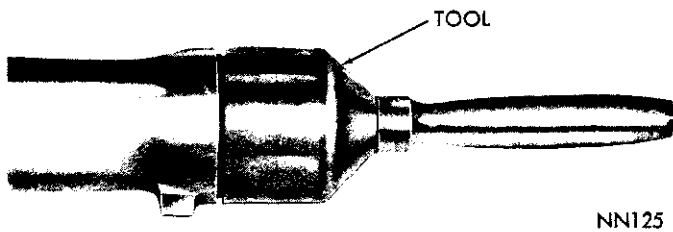

Fig. 14—Installing Extension Housing Yoke Seal
(4) To install a new seal, position seal in opening of extension housing and drive it into housing with Tool C-3972 (Fig. 14).
(5) Carefully guide front universal joint yoke into extension housing and on mainshaft splines. Connect propeller shaft to rear axle pinion shaft yoke.
(6) Fill transmission to level of fill plug (Refer to Lubrication Section).